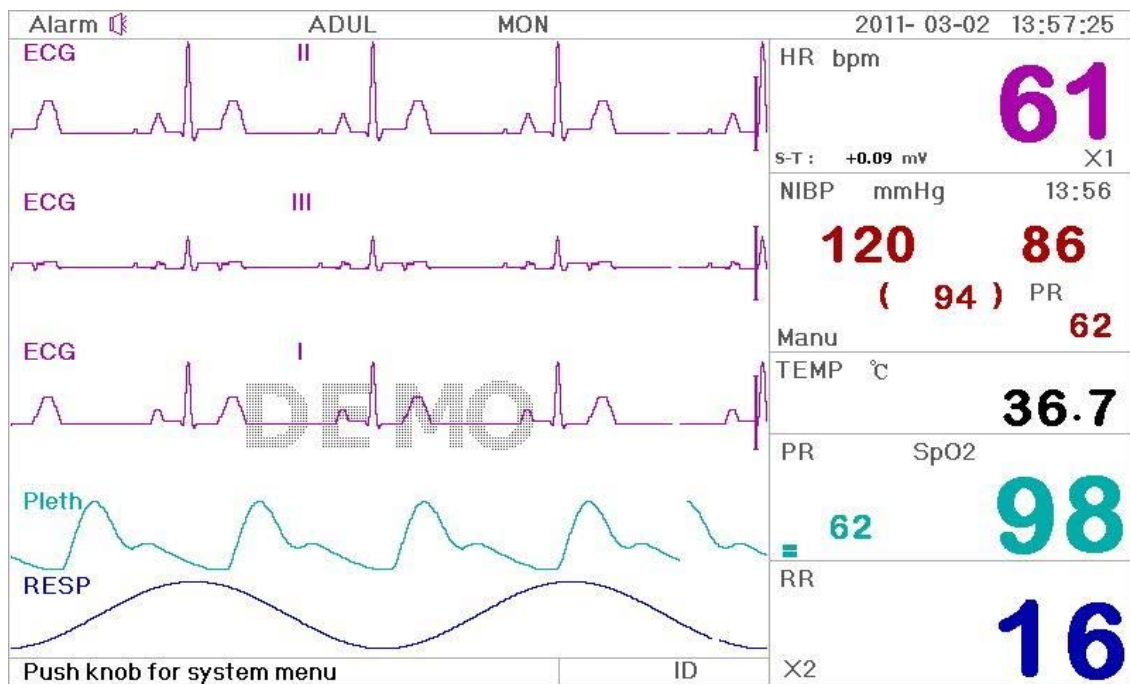

Figure 4.2 Main screen
Step 5: If you have finished adjusting the date and time, press the knob and rotate the knob to move the cursor to “Save”. Press it to save the settings and exit the date and Time Setup screen, meanwhile enter into the Main Screen shown in Figure 4.2. If you press “Exit”, the settings will not be saved.
The system is initialized and enters into Main Screen where monitoring and system operation are performed (as shown in Figure 4.2).